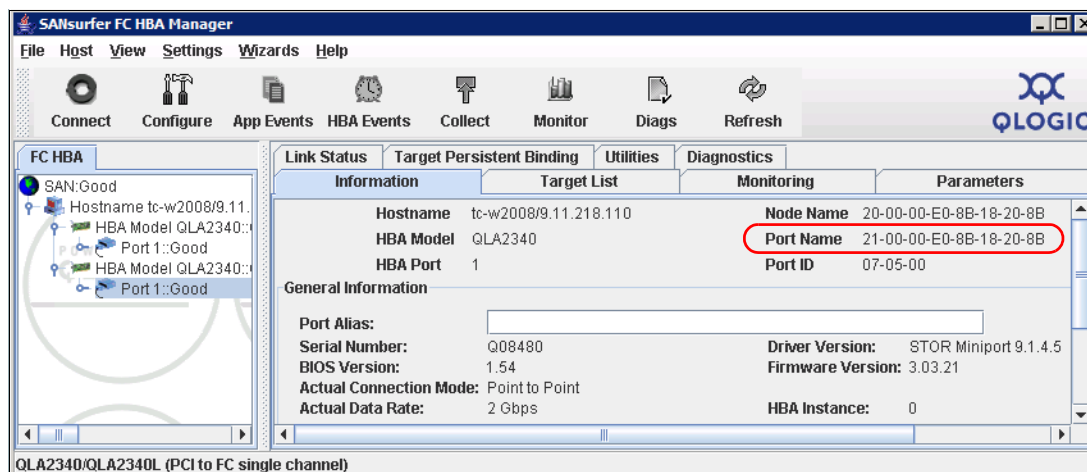

Figure 3-69 Displaying WWPN with SANsurfer
- In the next window, you need the attachment protocol to specify the host interface type, FC or iSCSI, and the HBA host port information (host port identifier and alias). Remember that the HBA host port identifier is the world-wide port name of the particular HBA. To make sure that you know what your server's HBA WWPN is, use the SANsurfer management tool (which is discussed in 5.12.3, "Qlogic HBAs and SANsurfer (Windows/Linux)" on page 426) as shown in Figure 3-69.